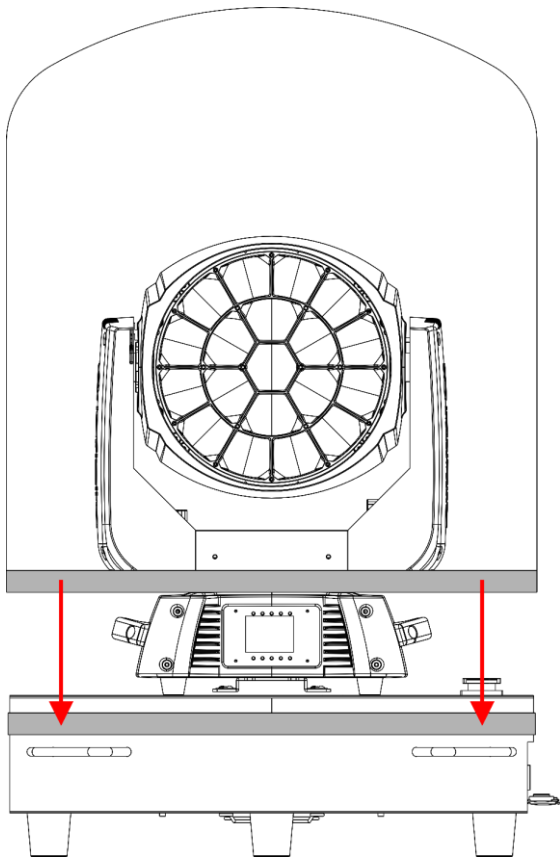

Fig. 18
- 01) Put the plastic sleeve over the device (Fig. 18).